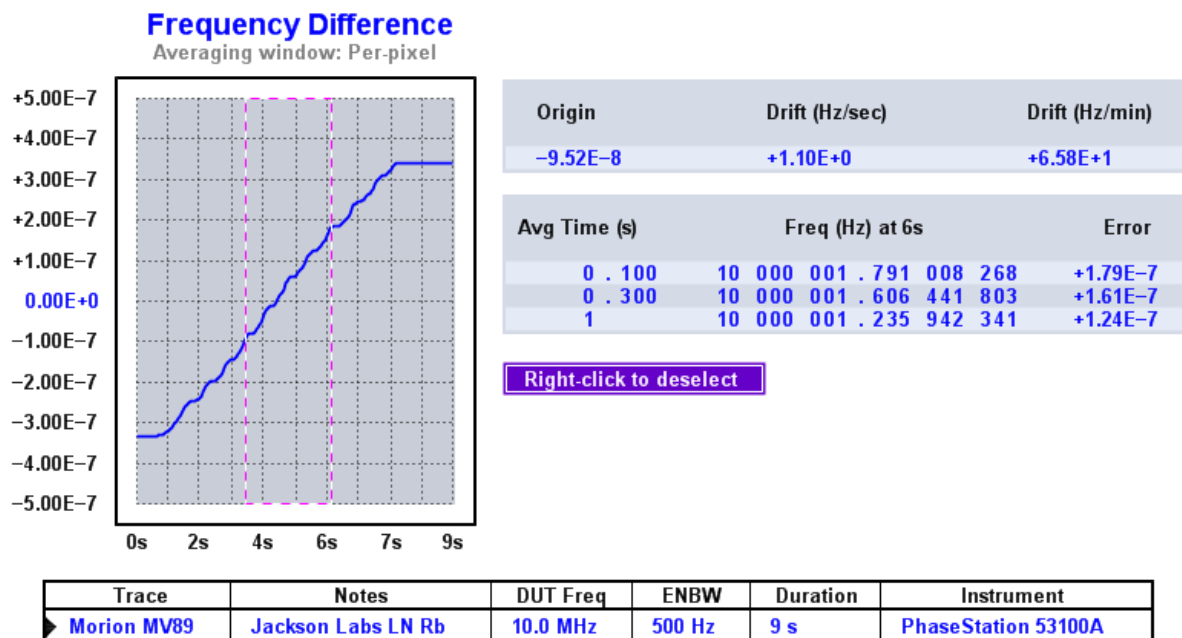

Figure 10
- To inspect the frequency count chart at a given time *without* zooming in, hold the Shift key while dragging with the left mouse button to define the selection area. The area will remain highlighted after dragging as illustrated below (Figure 10).